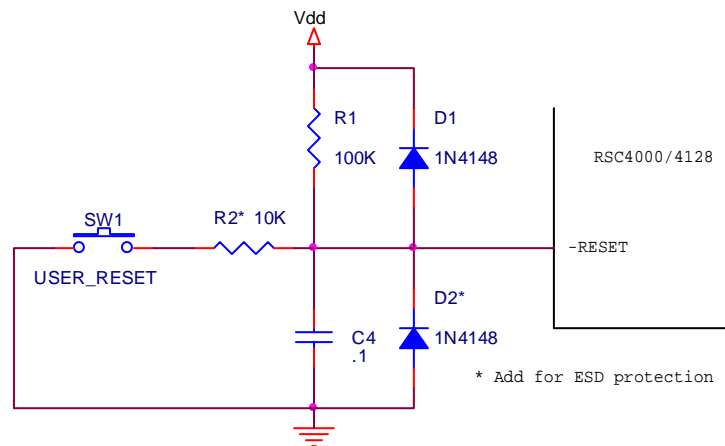

Figure 2 – Reset ESD protection
4. (Recommended) Put a 10K ohm series resistor and a 1N4148 diode to ground at the reset pin as shown in Figure 2 if it travels to the outside (usually via a user reset pushbutton) or otherwise travels a long distance.
7. (Desirable) Put clamp diodes (such as 1N4148) PWM as shown in Figure 2: